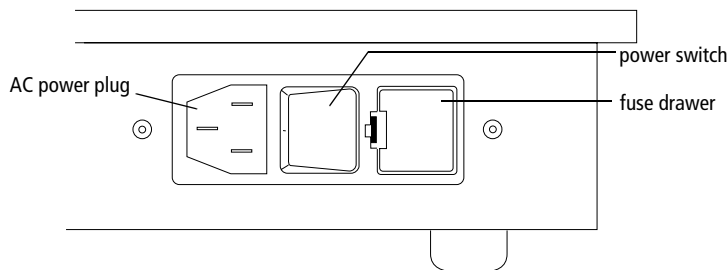

Figure 5-6 Back corner of the electronics module
- 5 Place a small screwdriver into the slot at the left of the fuse drawer and pry to pop out the drawer (Figure 5-6).